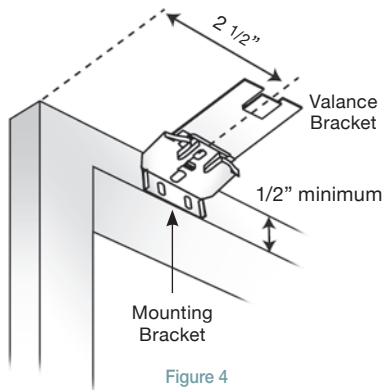

Figure 4
1. A minimum 1/2" high surface is required for an outside mount (Fig. 4).